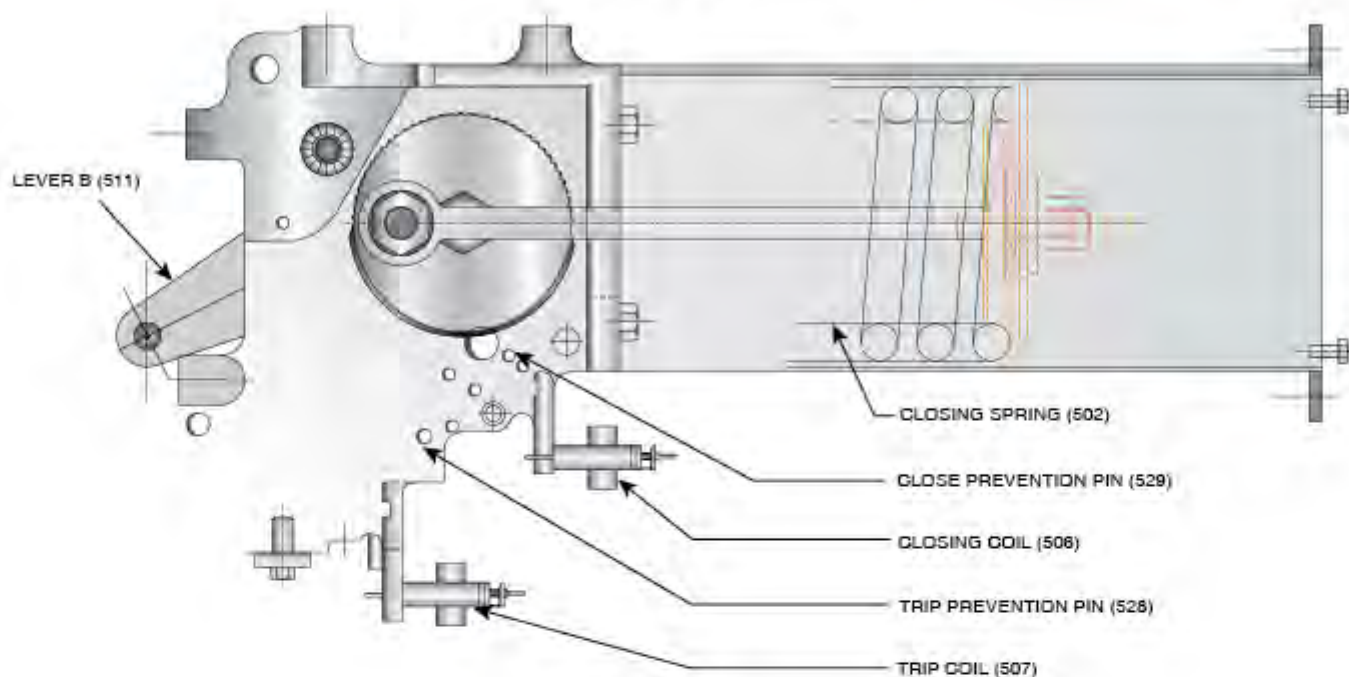

FIG. 12
6.6.1 Manual Operation (Refer to Fig. 12 & 13)